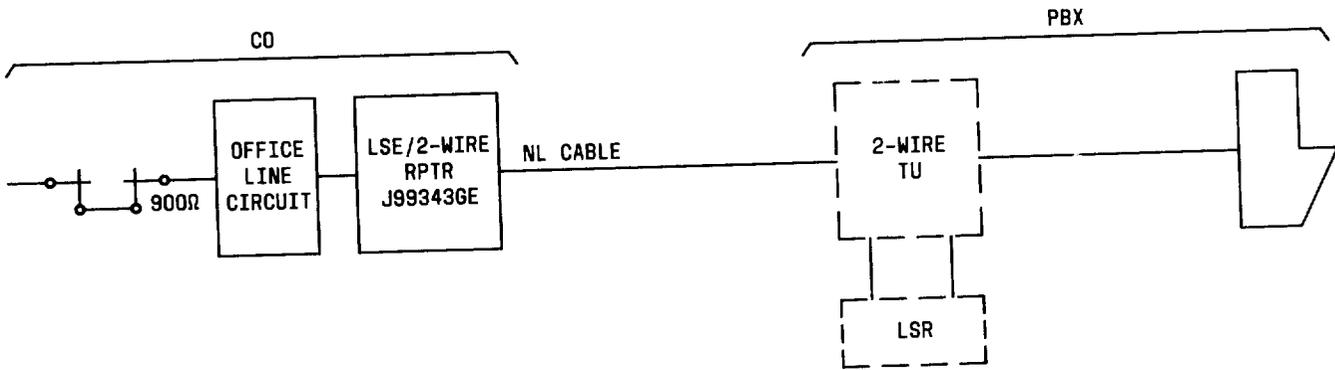

Fig. 7—Typical PBX-CO Trunk Application of the J99343GE-CFU
4.01 The J99343GE unit may be used to provide gain on any 2-wire circuit between nonloaded facilities and terminal equipment. Figure 7 shows a typical application using the unit on a PBX-CO trunk. This unit can also be used on off-premises station (OPS) lines, wide area telecommunications service (WATS) trunks and lines, and other metallic facility special service. Section 332-910-180 provides additional information.